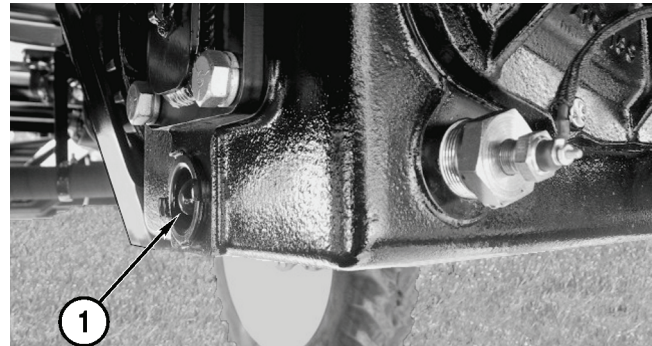

Figure 5-50
1. Remove the drain plug (**Figure 5-50, 1**) and drain the transmission fluid into a suitable container.